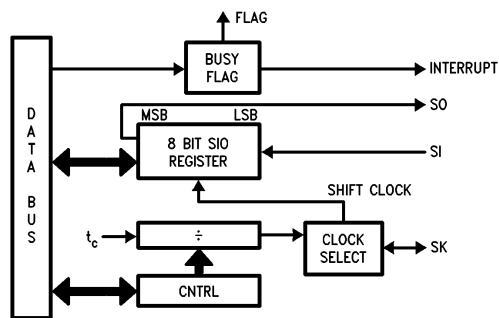

FIGURE 12. MICROWIRE/PLUS Block Diagram
MICROWIRE/PLUS is a serial synchronous communications interface. The MICROWIRE/PLUS capability enables the device to interface with any of National Semiconductor's MICROWIRE peripherals (i.e. A/D converters, display drivers, E²PROMs etc.) and with other microcontrollers which support the MICROWIRE interface. It consists of an 8-bit serial shift register (SIO) with serial data input (SI), serial data output (SO) and serial shift clock (SK). Figure 12 shows a block diagram of the MICROWIRE logic.